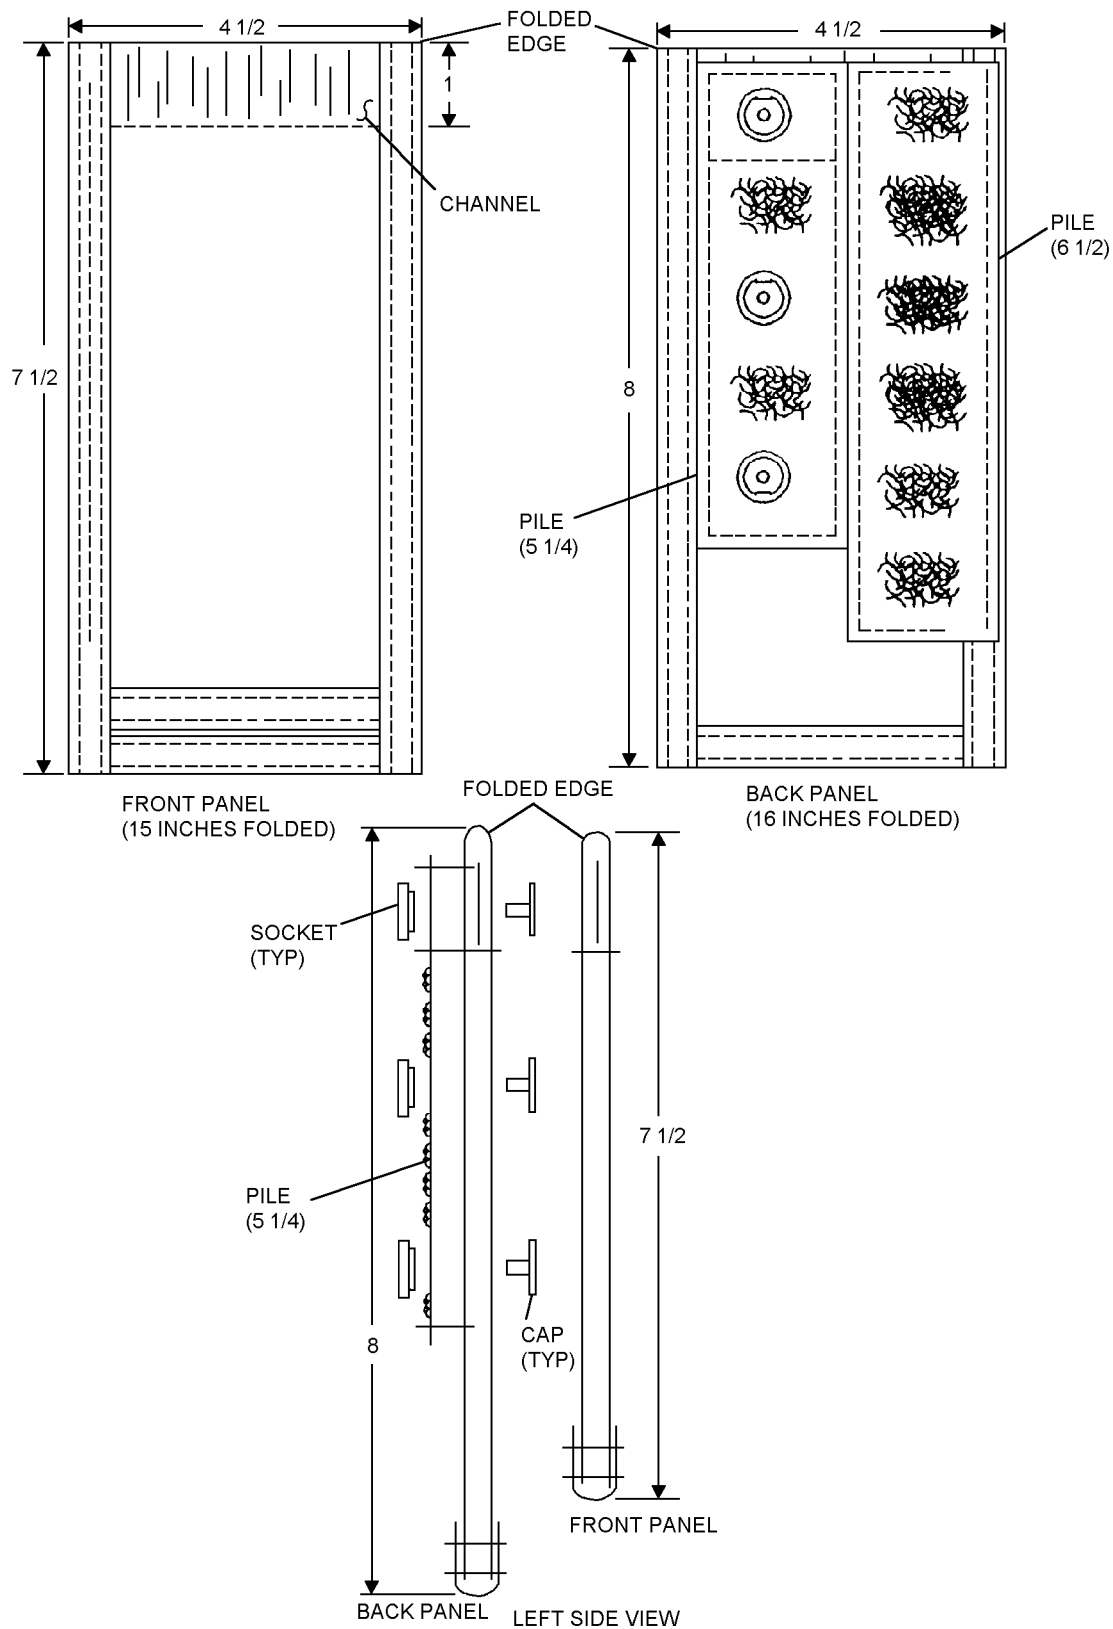

Figure 9-6. Fabrication of CBR Hose Pocket Assembly
9-21. Fabrication of Back Panel of HABD Hose Pocket. Refer to figure 9-6 and proceed as follows:
9-22. Fabrication of Front Panel of HABD Hose Pocket. Refer to figure 9-6 and proceed as follows:
9-23. Assembly of the HABD Hose Pocket. Refer to figure 9-6 and proceed as follows:
b. The top two sockets shall have their flat locking edge on top and the lowest socket shall have the flat locking edge toward the bottom (figure 9-6).